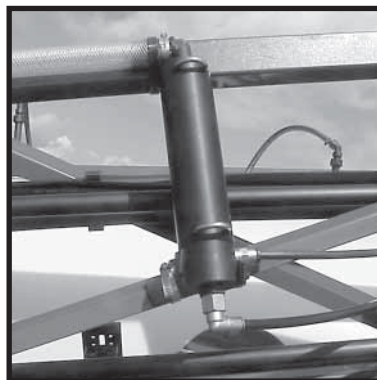

Fig. 24
2. Mount the Foam Generator vertically, with the $\frac{3}{4}$ " 90° hose barb at the top. The retaining clip and mounting flat bar is placed to fit around the base of the foam mixing chamber. The flat bar is clamped to the boom structure with the hose clamps provided (**Fig. 24**).